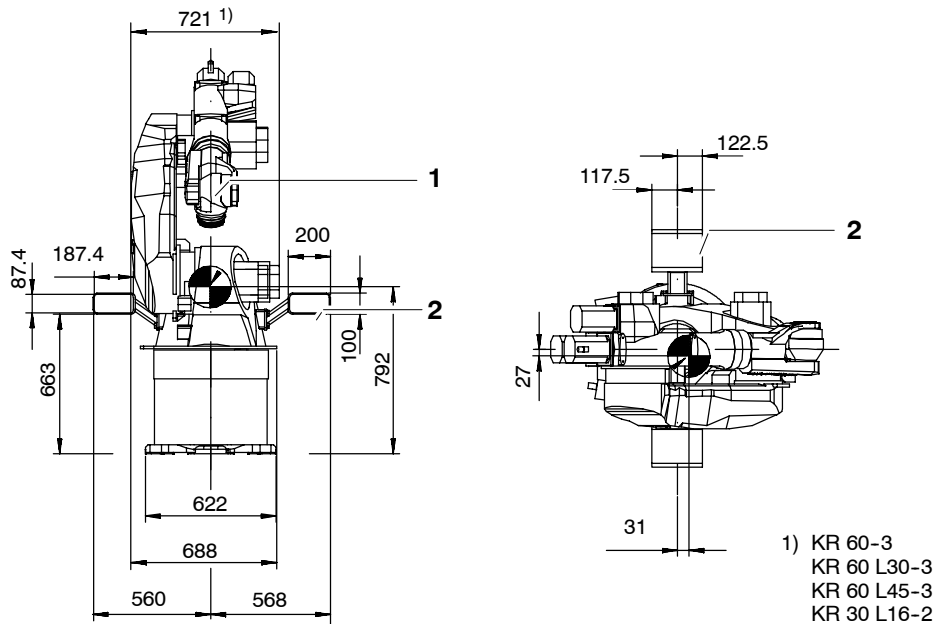

Fig. 37 Fork slots
For transport with a fork lift truck, two removable, open-ended fork slots (Fig. 37/2) are mounted on the rotating column. This allows the manipulator (1) to be picked up from two sides.